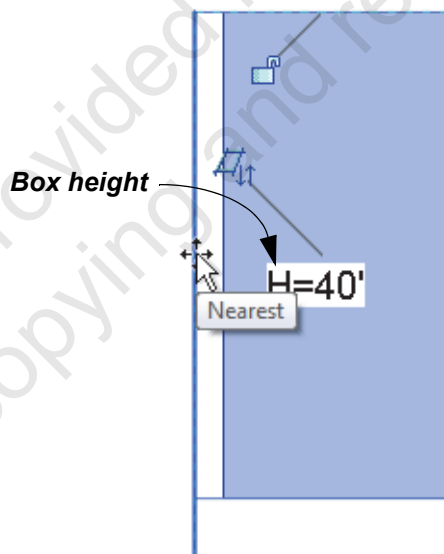

Figure 1-19
6. Select each box and use shape handles to resize them to fit the outline. For the angled sketches, rotate or align the boxes first. When you drag the shape handles, they automatically snap to nearby elements, as shown in Figure 1-19.